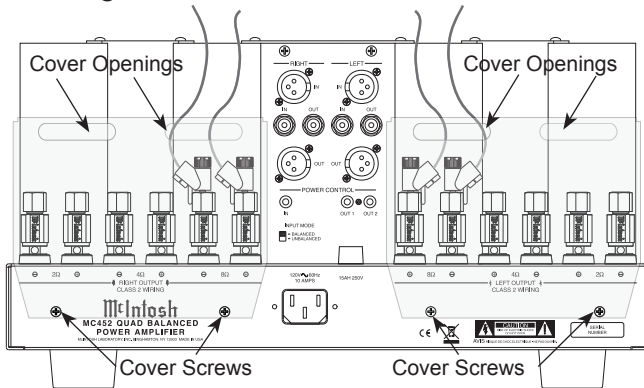

Figure 5 (Inside USA and Canada)
7. Locate the Terminal Connections Covers from the inside of the MC452 shipping carton. Insert the just prepared Loudspeaker hookup cables thru the cover openings, one cover for each channel. Refer to figure 5.
Note: The illustration in figure 5 is connections for 8Ω (ohms) Loudspeakers.
11. Attach the Terminal Connections Covers to the MC452 Rear Panel with the previously removed Screws. Refer to figure 5.